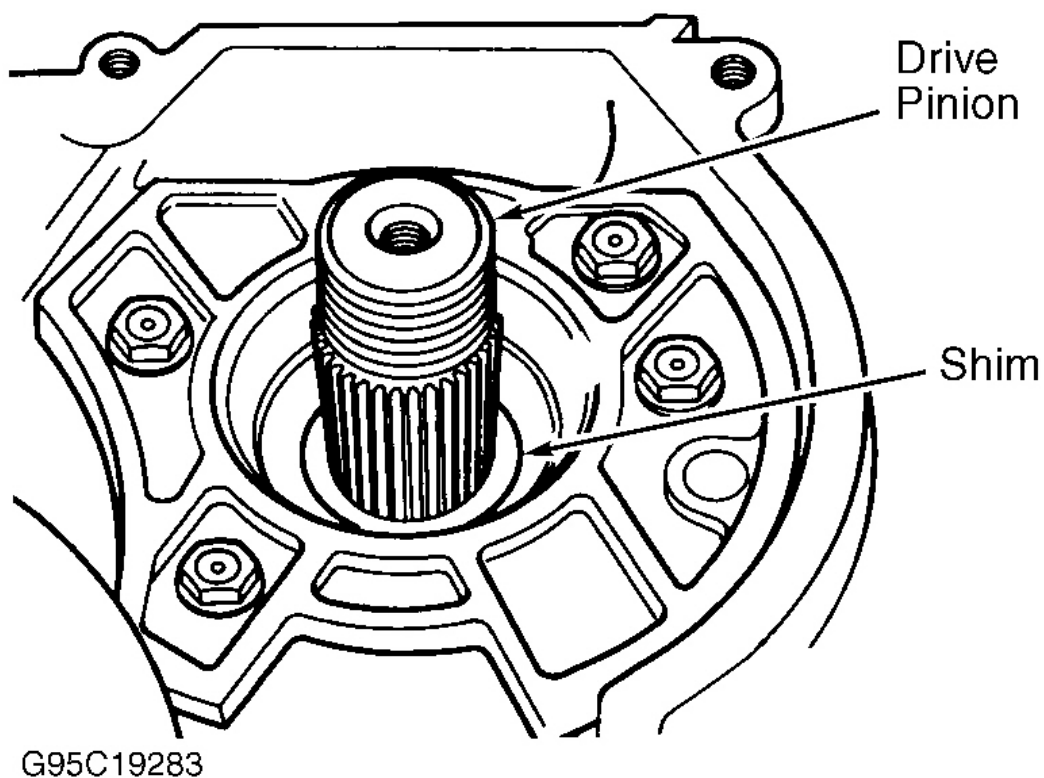

Fig. 51: Installing Drive Pinion Shim
2. If reusing drive pinion and large pinion bearing, Do not remove existing shims from drive pinion shaft. See Fig. 51 . Go to step 4 . If replacing drive pinion and/or pinion bearings, install large pinion roller bearing to drive pinion.
3. Remove large roller bearing race support. Place two .06" (1.5 mm) thick shims onto drive pinion shaft. See Fig. 51 . Install large roller bearing race support.